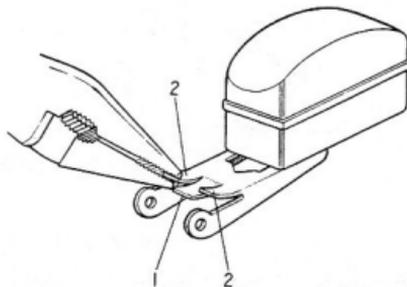

Fig. 5-53 Float Tab
To obtain a correct clearance, bend the tab at (1) in figure 5-53.
To obtain a correct clearance, bend the tabs at (2) in figure 5-53.